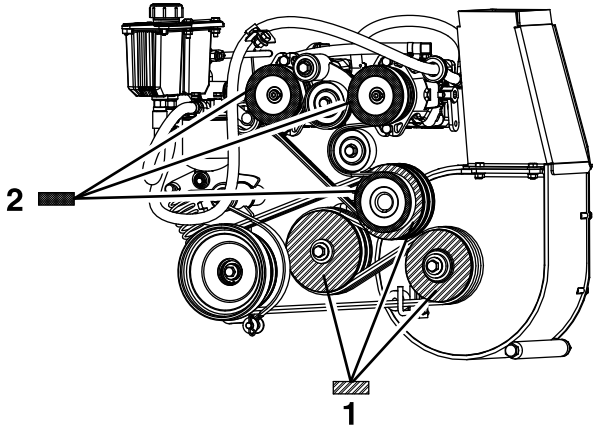

Figure 55
8. Measuring from the blower pulley as a baseline, move the engine and jackshaft until the rear surface of all 3 pulleys are aligned within 0.8 to 1.6 mm (1/32 inch to 1/16 inch) (Figure 55).
4. Using a straight edge, align each pump pulley with the engine pulley by sliding it along the pump shaft (Figure 55).